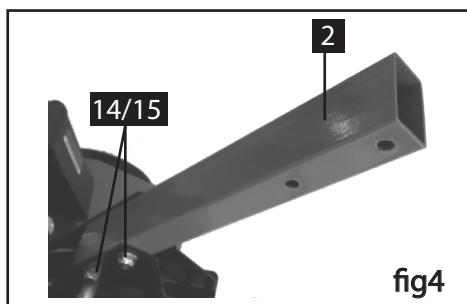

fig4
3. Mount the girder on the tiller with 2 M8*70 screws and flange nuts.(Fig.4)